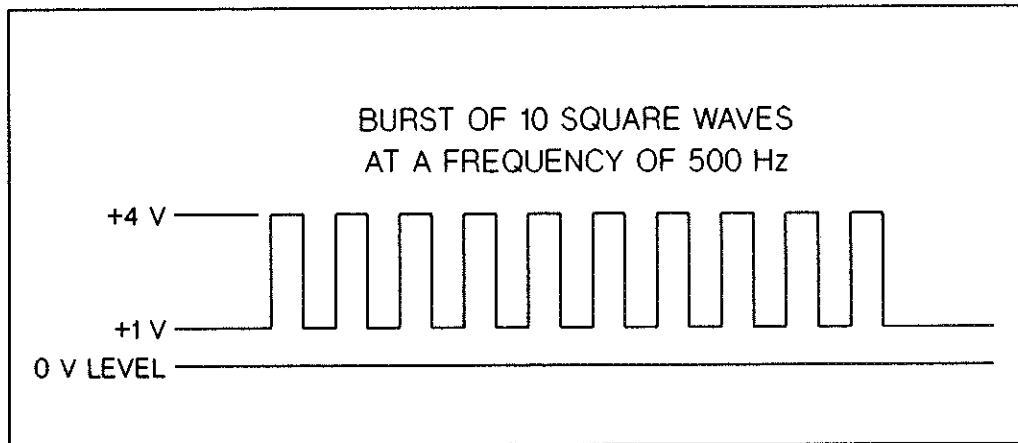

Figure 12-11 Input/Totalize Test Signal
In the following tests, a function generator outputs a burst of ten +1 V to +4 V peak-to-peak 500 Hz square waves, after being triggered (see Figure 12-11). The Digital Input Accessory then counts those ten cycles. A +1 V to +4 V square wave is used to check the upper and lower limits of the accessory's threshold voltage. A frequency of 500 Hz is used since that is the maximum frequency the accessory is able to count transitions accurately.
3. Set the function generator to output a ten cycle burst of +1 V to +4 V peak-to-peak 500 Hz square waves. The square waves are represented in Figure 12-11. If using the recommended function generator, set it up as follows: